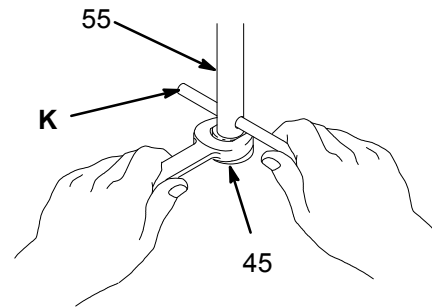

Fig. 3
3. Disconnect the hoses, remove the pump from its mounting, and clamp the air motor base (35) in a vise.
4. Screw the priming tube (46) off of the displacement cylinder (61).
5. Hold the displacement tube (55) with the rod (K) and screw the priming piston (45) off the displacement tube. See Fig. 3.